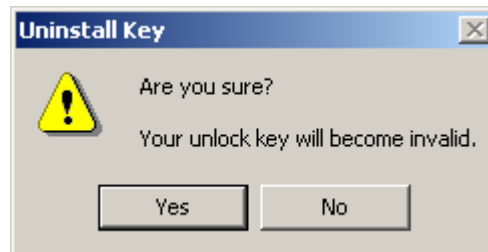
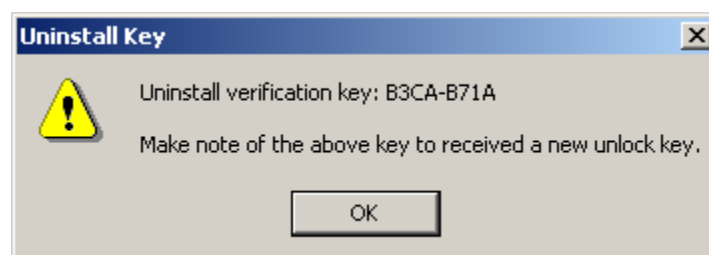

Figure 10.7: Uninstall Key Dialogue Box_1
Figure 10.8: Uninstall Key Dialogue Box_2
3. If “Yes” is selected, note down the “Uninstall Verification Key”. See *Figure 10.8*.
The dialogue as shown in Figure 10.7 allows the user to click “Yes” to continue or “No” to abort. If “Yes” is select Figure 10.8 is displayed.